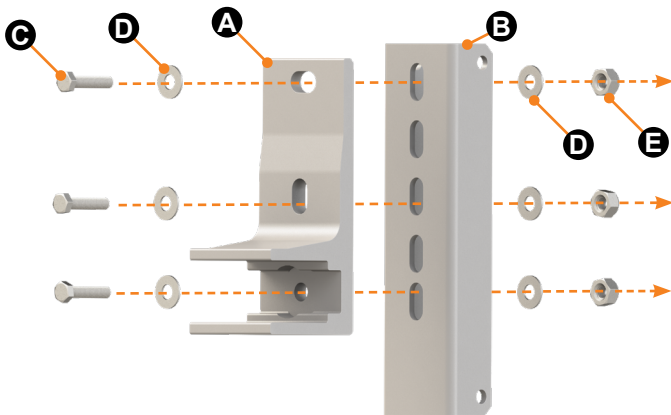

Fig.41
1. Affix a "F" bracket (Fig. 41A) to an awning-side roof bracket (Fig. 41B) using three M10 x 35mm bolts (Fig. 41C), six 26mm x 10mm Flat Washers (Fig 41D), and two M10 locking nuts (Fig. 41E). Make sure the side of the awning side roof bracket with fewer holes is oriented downwards as depicted in Figure 41.